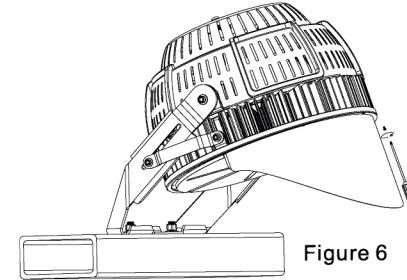

Figure 6
7. Fix the light shield to the luminaire with a screwdriver as required (Figure. 6).